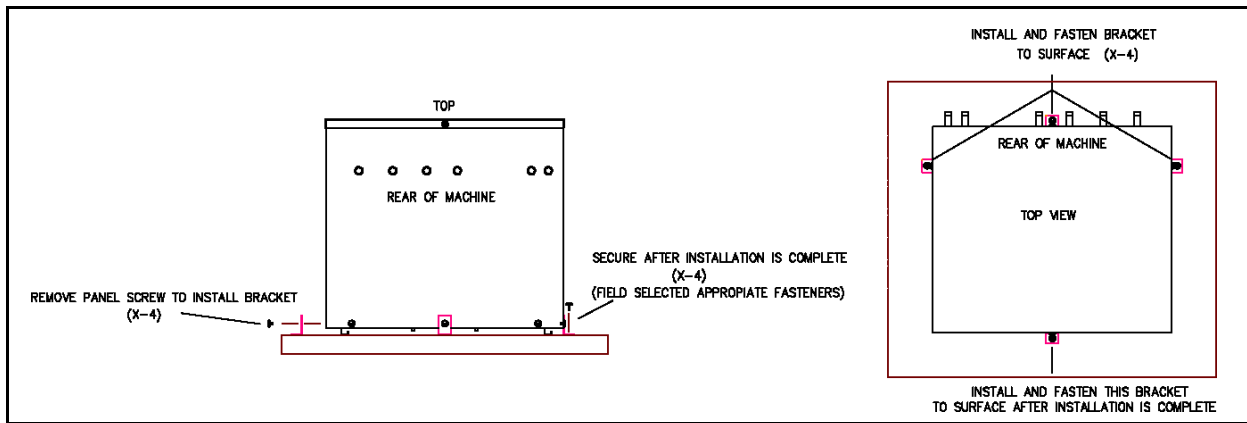

Figure 3. Compressor Unit Bracket Installation
- On a solid, level hard surface. If compressor unit is to be fastened, see Figure 3 for bracket installation.